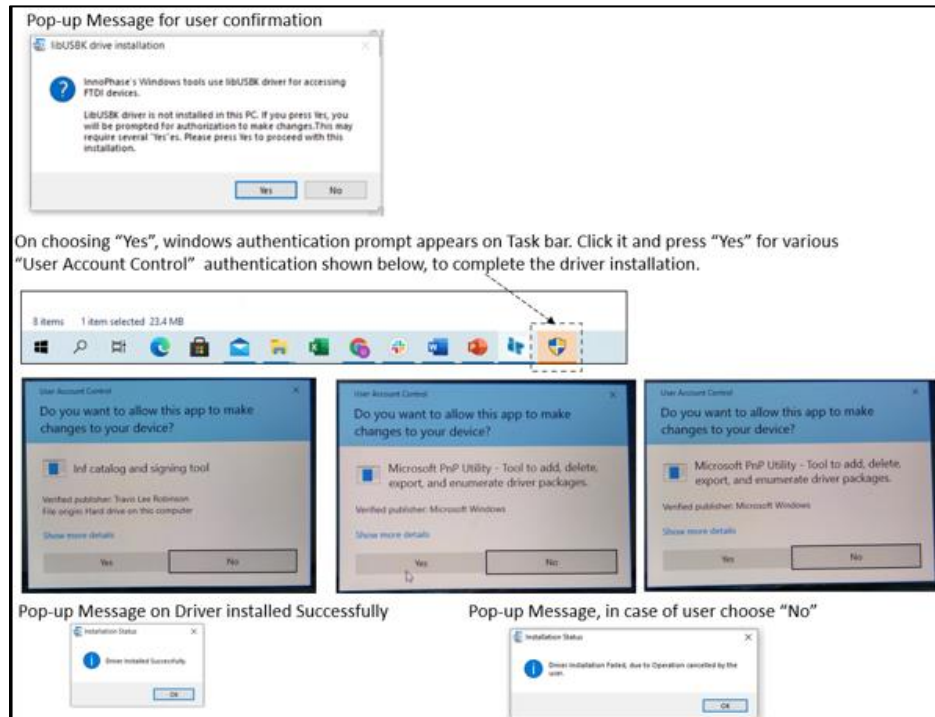
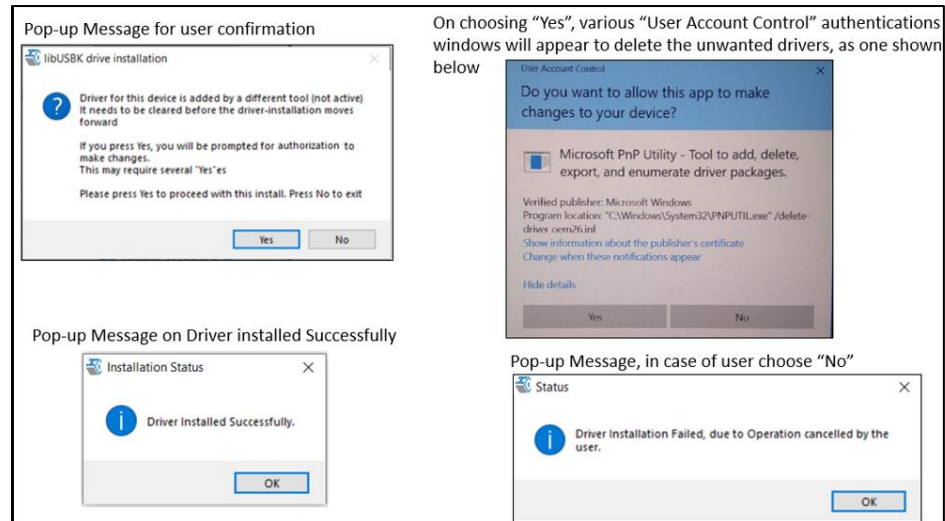

Figure 4: User Account Control authentication to complete driver installation
Figure 5: User Account Control authentication to delete the unwanted Libusbk drivers
Download tool comes with an option of `One-Click Installation` of `libusbK` driver. In case the driver is not installed, the tool will ask for user confirmation to install this driver. If the user selects `yes`, various `User Account Control` authentication screens will appear to complete the driver installation (as shown in Figure 4).
1. In case of any other unwanted `libusbK` drivers that are already installed, tool will automatically uninstall the unwanted drivers. This action needs `User Account Control` authentication screens shown in Figure 5, in addition to Figure 4. Each unwanted drives will require a separate `User Account Control` authentication for uninstallation.
2. Talaria TWO Evaluation Board may get detected under any already installed device driver (using `libusbK` driver). In this case, the tool will follow the procedure of `One-Click Installation of libusbK` driver (as shown in Figure 4), and might get completed with a pop-up message "Driver Installation Failed". This will result in any one of the following two conditions: